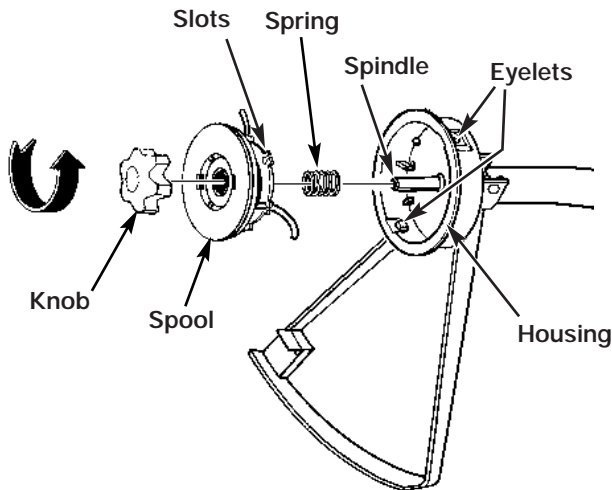

Fig. 13
1. Turn the knob counterclockwise to remove it (Fig. 13).
7. Install the spring over the spindle. Insert each end of the line through an eyelet in the housing (Fig. 13).